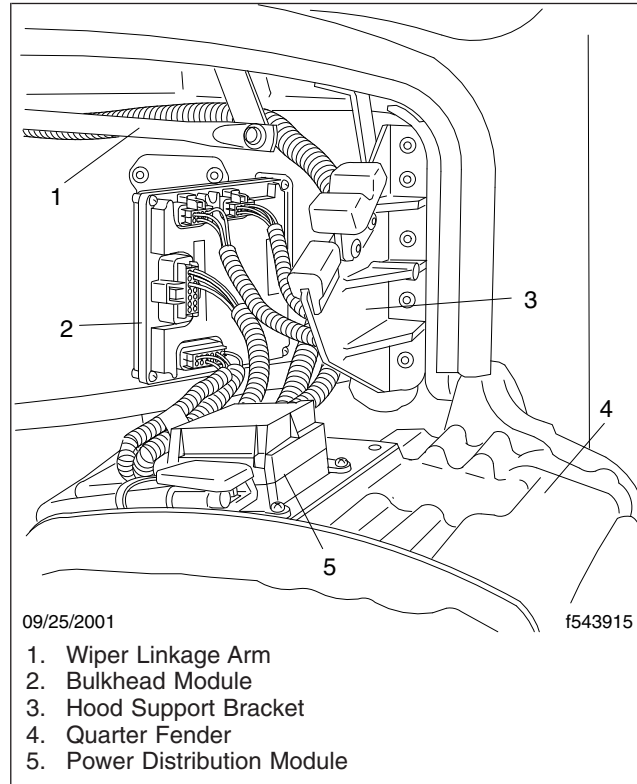

Fig. 2, Bulkhead Module from the Engine Side
3. Disconnect bulkhead harnesses B1 through B4 from the engine side of the frontwall. See Fig. 2.